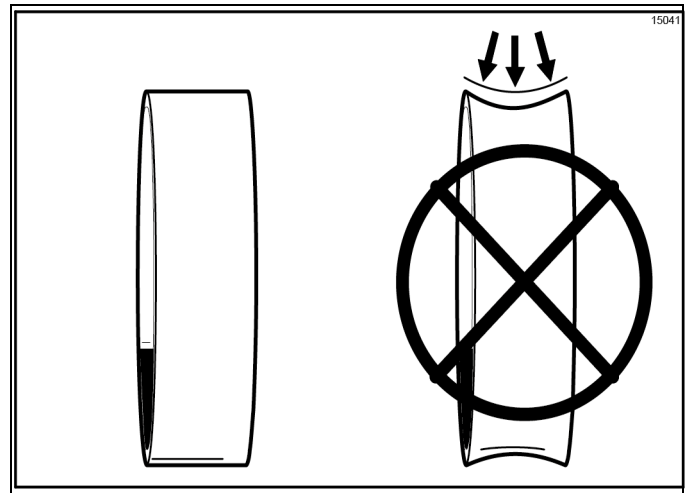

Figure 6-19
**Note:** Check rings have two smooth surfaces. A concave shape indicates an incorrect assembly. Turn the check ring inside out to correctly expose the flat surface. (See Figure 6-19.)